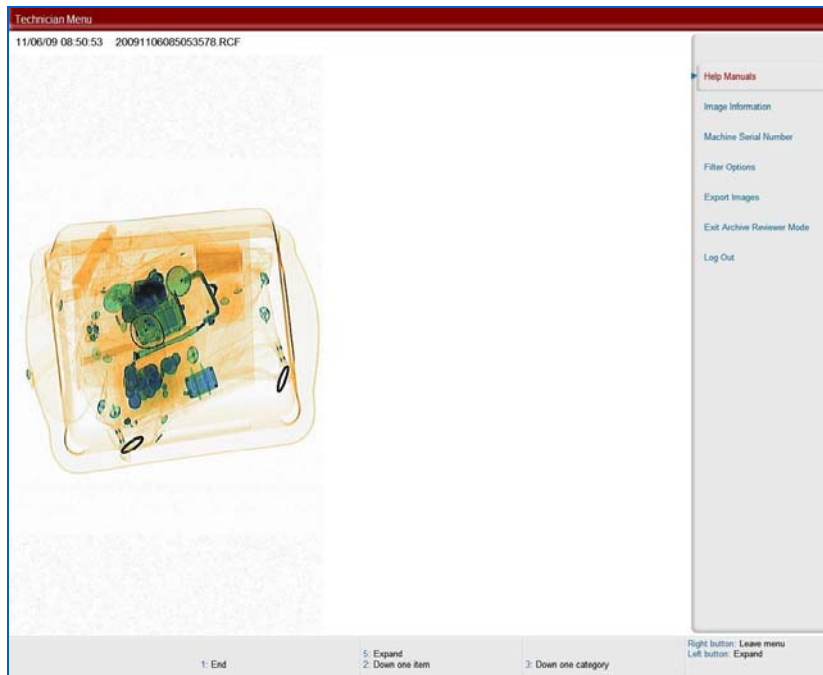

Figure 247: Review Manual Archive menu
Press the red Stop (ST) key on the operator control panel to stop the images from scrolling. Left click the mouse button and the Review Manual Archives menu will slide into view from the right side of the screen (Figure 247).